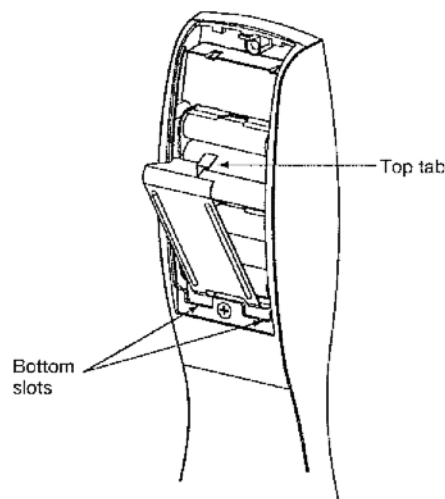

Fig. 3
4. Install battery keeper clip by inserting tabs into bottom slots. To remove keeper, pull on top tab (Fig. 3). For RF Technology version, refer to Section 8.